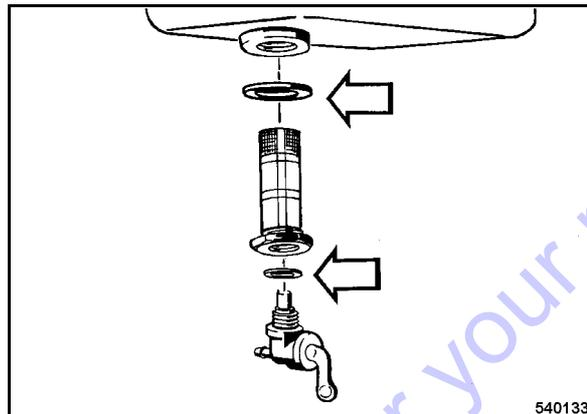

Fig. 56
- Screw the strainer and the fuel shut-off valve in with a new seal each (Fig. 56).